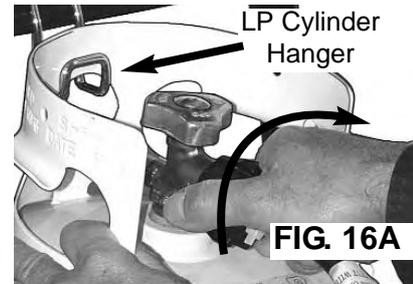

FIG. 16A
**STEP 3B. (20 lb Cylinder)** Hook the 20 lb. Cylinder upright to the hanger on the right side. Connect end of hose to Cylinder valve by turning counter-clockwise and hand tighten. (FIG. 16A)